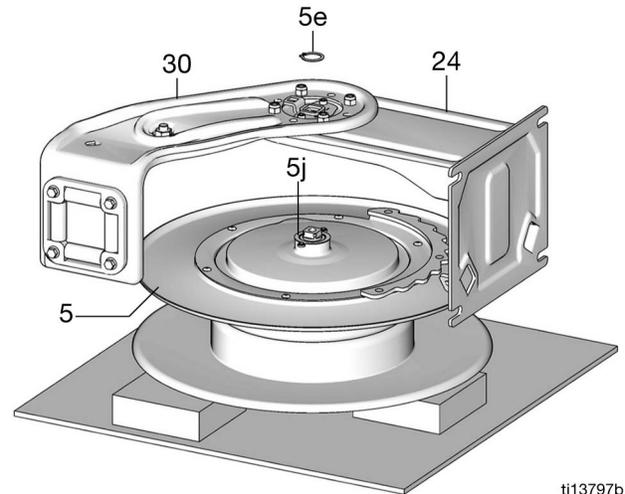
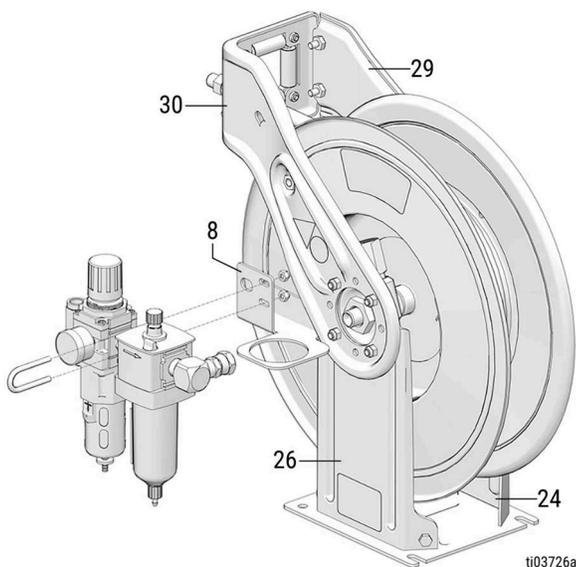

FIG. 23
FIG. 22
On part number 2009322 guide arm (30), pedestal assembly (26) and FRL bracket (8) will be removed as one piece due to the reversed direction of the product (FIG. 22).
11. Completely remove, as one piece, the guide arm (30) and pedestal base (24) and set it aside for re-installation on the new spool.
On part number 2009322 guide arm (29) and pedestal (24) will be removed as one piece due to the reversed direction of the product (FIG. 22).
8. Lay the hose reel on its side to easily access the guide arm (30) and pedestal (24).
On part number 2009322, this will be guide arm (29) and pedestal (24) due to the reversed direction of the product (FIG. 22).
10. Remove the snap ring (5e) (FIG. 23).
13. Place the new spool (5) on its side on a work bench, with the flat side of the spool facing downward and the ratchet side facing upward, see FIG. 23.
14. Position the guide arm (30) and pedestal base (24) assembly over the spool. Adjust, as needed, to align the parts.
On part number 2009322 guide arm (29) and pedestal (24) will be installed due to the reversed direction of the product (FIG. 22).
NOTE: Re-attaching the guide arm (30) (or guide arm (29) if servicing part number 2009322) and pedestal base (24) assembly is easier when the spool (5) is supported and level. Placing 1 in. (25 mm) scrap wood blocks under the spool, as shown in FIG. 23, supports it during installation of the arm.
17. Install washers (15 and 17) and the long bolt (18), but do not tighten the bolt.
19. Place the guide arm (30) and pedestal assembly (29) over the swivel assembly and spool (5).
20. Install large nut (11) and tighten (torque 85 - 105 ft-lb/115.2 - 142.4 N•m) (FIG. 23).
21. Tighten the bolt (18) (torque 25 - 35 ft-lb (33.9 - 47.5 N•m).
22. Align the guide arm (29) and guide arm (30), then install screws (27) and tighten torque 20 - 30 ft-lb (27.1 - 40.7 N•m).
23. Align the pedestal assembly (26) to the base (24). Install two screws (27) and tighten (torque 20 - 30 ft-lb (27.1 - 40.7 N•m). If applicable, reinstall FRL assembly.